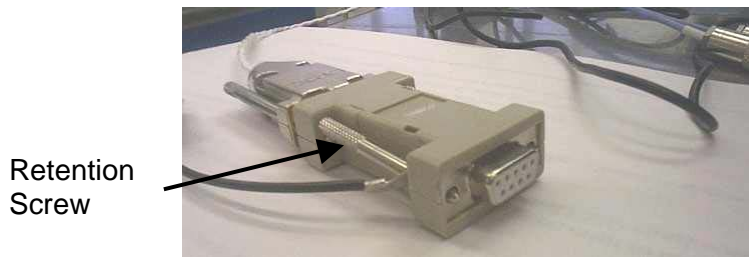

Figure 6.- Serial Data Cable with Retention Screws (shown retracted).
Refer to Figure 6.
* Pull retention screws diagonally back (Figure 6).